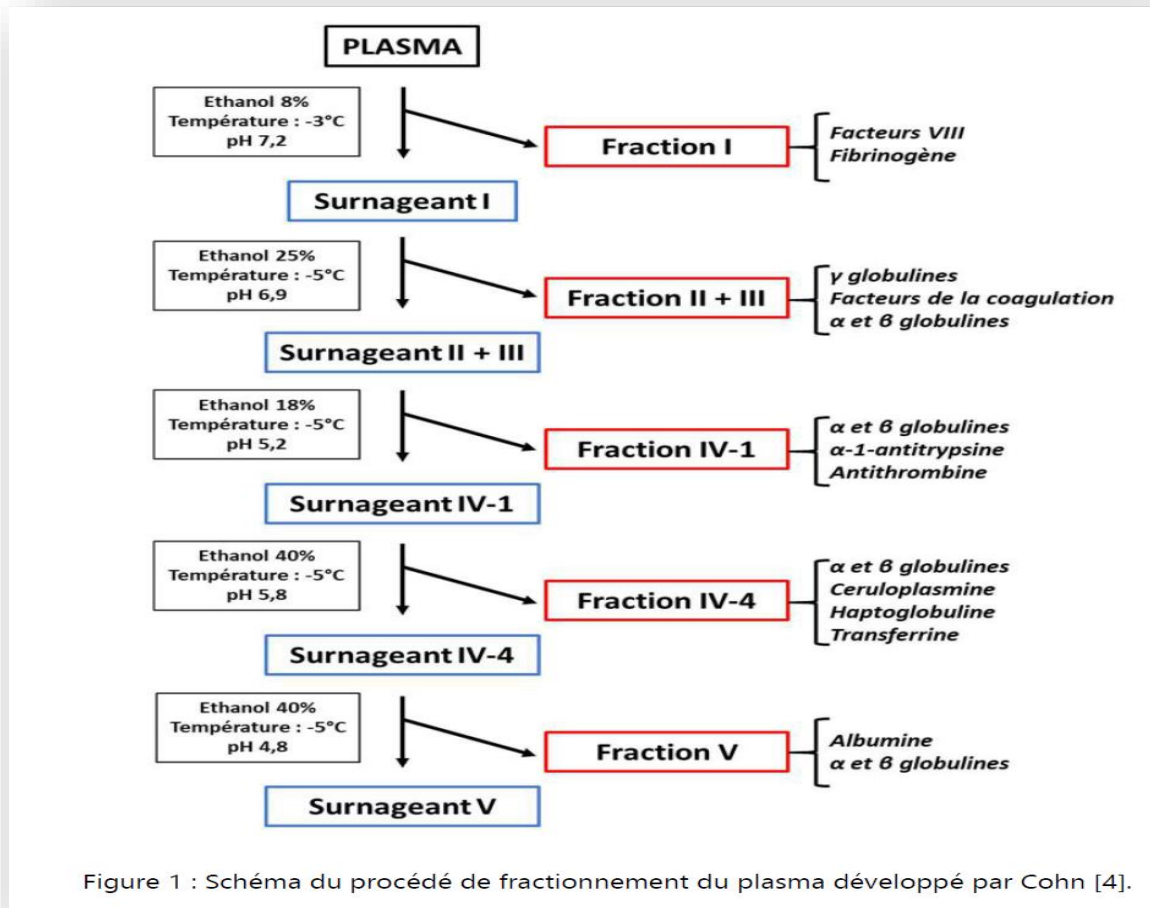

Figure 39: Diagram of the plasma fractionation process developed by Cohn.
- The Cohn process (figure 39) is based on sequential ethanol precipitation of plasma proteins at low temperatures, combining the action of various parameters such as pH, ionic strength, temperature, and organic solvent concentration.